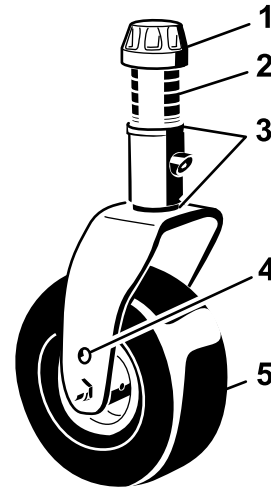

Figure 8
2. Position the caster wheel axles in the same holes in both caster forks. Refer to Figure 8 to determine the correct holes for the setting.
3. Remove the tensioning cap from the spindle shaft (Figure 8) and slide the spindle out of the caster arm. Put the 2 shims (3 mm or 1/8 inch) onto the spindle shaft as they were originally installed. These shims are required to achieve a level across the entire width of the cutting